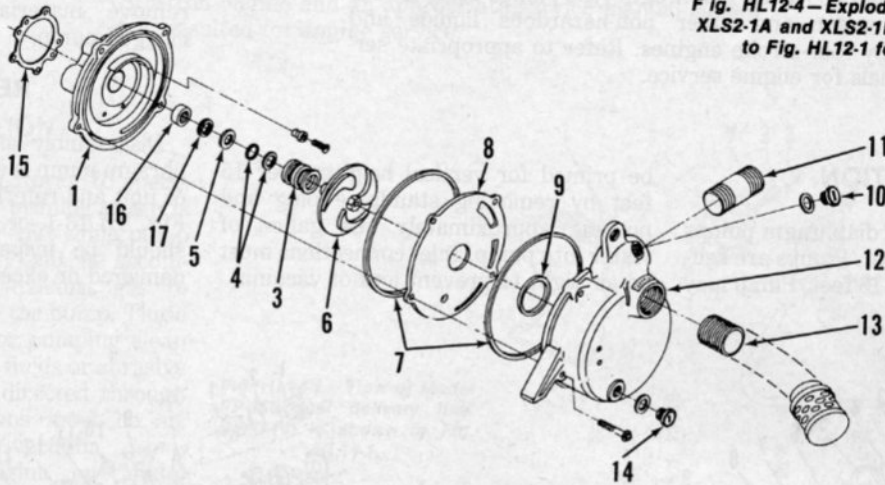

Fig. HL12-3—Exploded view of Model XLS1 1/2-4 and XLS1 1/2-4A centrifugal pumps.
DISASSEMBLY AND REASSEMBLY. Disassembly and reassembly of pump is evident after inspection of unit and referral to exploded view in Fig. HL12-1, HL12-2, HL12-3 or HL12-4. Care should be taken not to damage gaskets during disassembly. Impeller must be turned counterclockwise for removal. Unscrew impeller by placing wrench on hex end of impeller and striking wrench sharply with a hammer. Take care not to damage or lose shims or seals. On Models XLS1½-4 and XLS1½-4A, impeller housing (1-Fig. HL12-3) must be removed from engine to inspect and renew seal (17) and bearing (16).